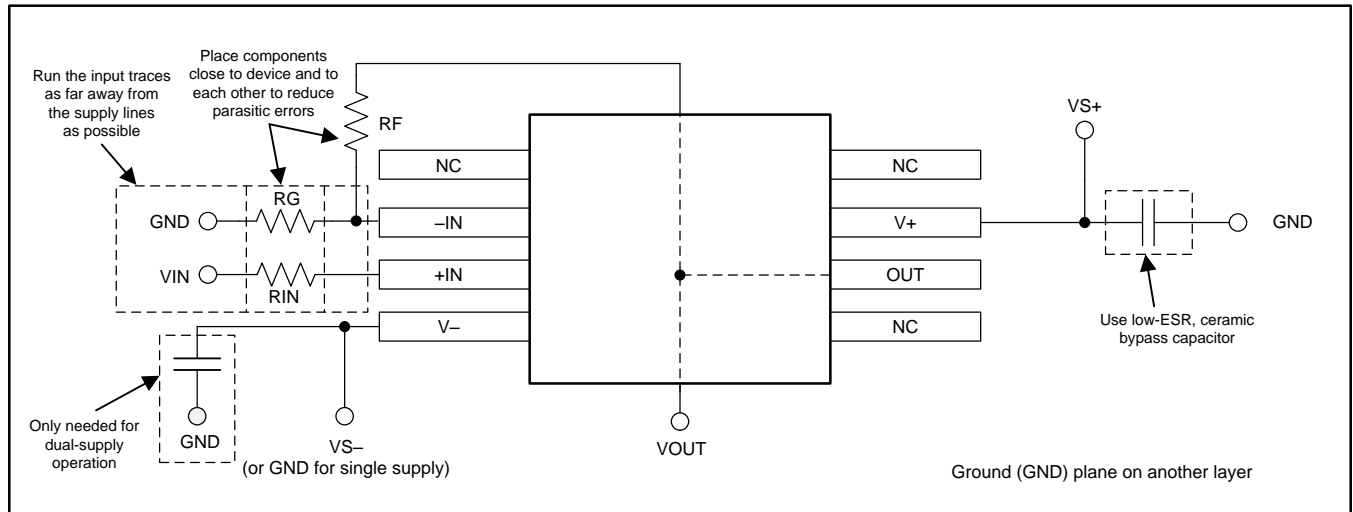

Figure 69. Operational Amplifier Board Layout for Noninverting Configuration
- Place the external components as close to the device as possible. As shown in Figure 69, keeping RF and RG close to the inverting input minimizes parasitic capacitance.